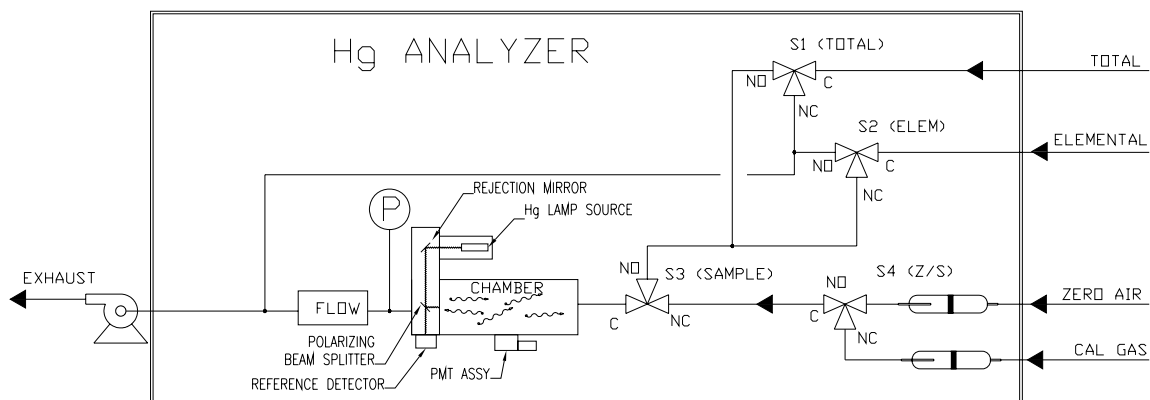

Figure 1–1. Model 80i Flow Diagram
The sample from the Hg probe (Model 83i) is introduced to the rear panel of the instrument as either Total Hg or Elemental Hg from the appropriate probe umbilical connection (see **Figure 1–1**). When the Model 80i is sampling Total Hg, the total sample is routed into the fluorescence chamber via Solenoids S1 (NO state) and S3 (NO state). During this time, the Elemental Hg sample bypasses the chamber via Solenoid S2 (NO state).
Table 1–1 shows the Model 81*i* solenoid valve status for the different calibrator modes. Use this table along with **Figure 1–2** when reading the principle of operation description that follows. Note that a valve status shown as ON describes a valve that is energized, or in the Normally Closed (NC) state. A valve status shown as OFF describes a valve that is de-energized, or in the Normally Open (NO) state.